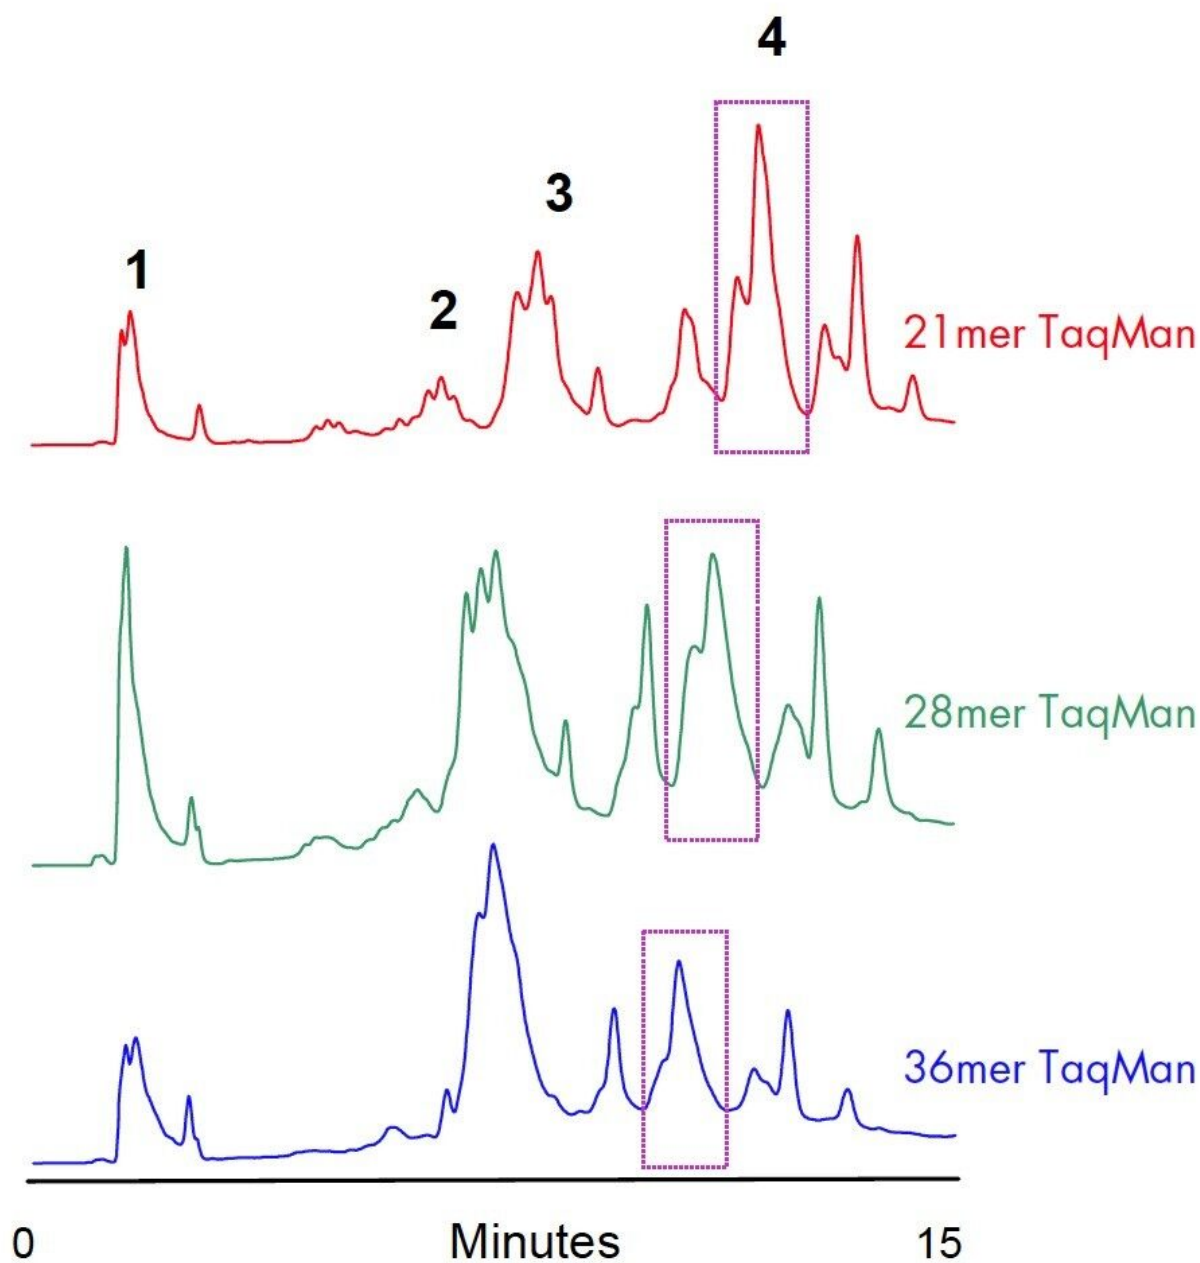

Figure 3. HPLC purification of TaqMan Probes.
Retention of dye-labeled oligonucleotides is governed by the hydrophobicity of the dye. This is demonstrated on the purification of three different TaqMan probes (Figure 3). Non-labeled oligonucleotides elute first (1), followed by FAM labeled failed sequences (2). TAMRA-only labeled failure fragments (3) elute before the